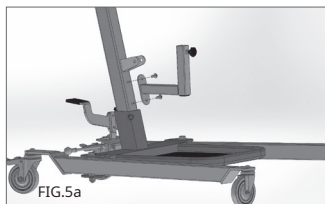

FIG.5a
4. Insert the ring into the hole of the arm intended for joining the joint with the column (Fig.5a)
7. Install and secure the knee bracket to the column with the supplied screws and position the knee brackets by adjusting their height with the supplied handle (Fig. 5a-5b).